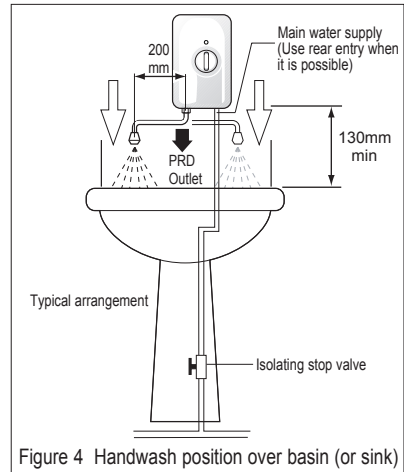

Figure 4 Handwash position over basin (or sink)
- 4.6 Position the unit above the basin so that the spray will be contained within the basin and at a convenient height for hand washing see Figure 4.
- 5.11 An isolating stopvalve **MUST** be incorporated to the main water supply to comply with Water Regulations - see Fig. 4.